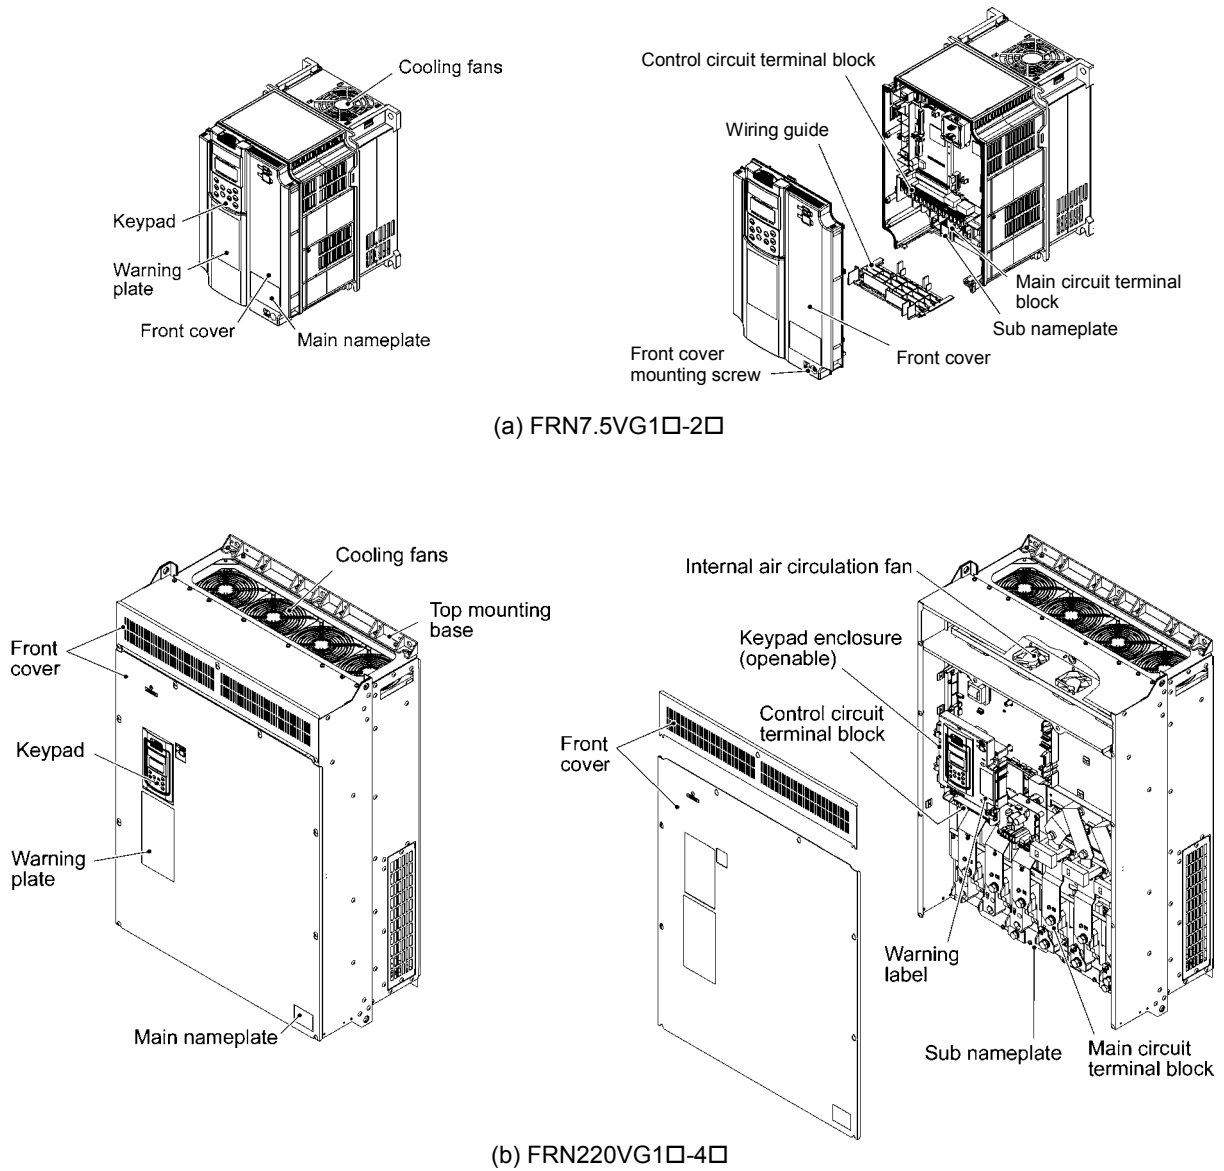

Figure 3.1-2 Outside and Inside Views of Inverters
- (2) The inverter has not been damaged during transportation—there should be no dents or parts missing.
- (3) The inverter is the type you ordered. You can check the type and specifications on the main and sub nameplates. (The main and sub nameplates are attached to the inverter as shown in Figure 3.1-2.) For inverters of 30 kW or above, the mass is printed on the main nameplate.